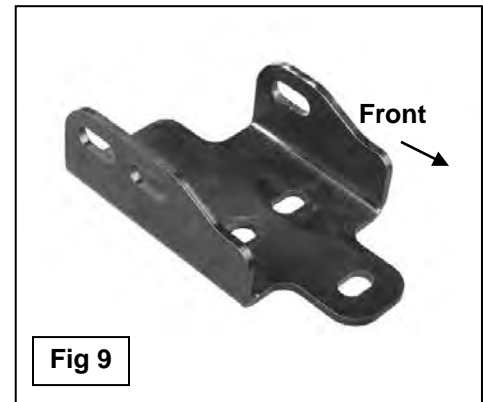

Fig 9
- h. Select (1) Frame Bracket, **(Fig 9)**. Insert the Bracket through the opening in the plastic bumper, **(Fig 8)**. Line up the (3) holes in the Bracket with the holes in the end of the frame channel.